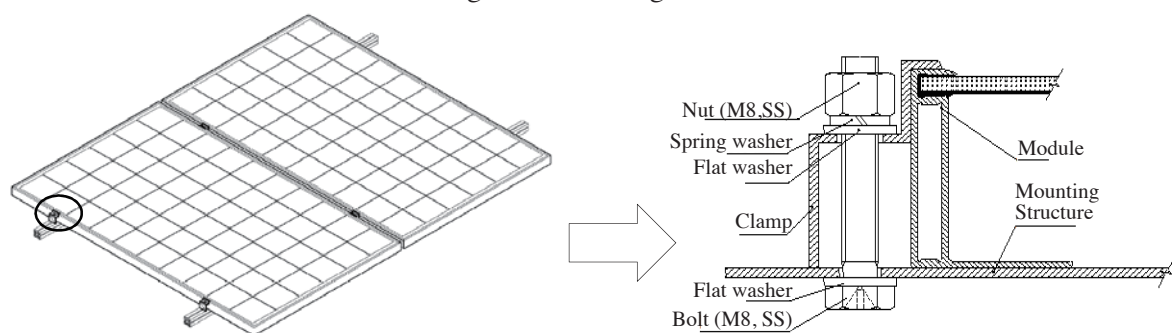

Figure 4 Mounting clamps
- Clamping system: use proper clamp, and fix the module with the installation support, as shown in Fig. 4.